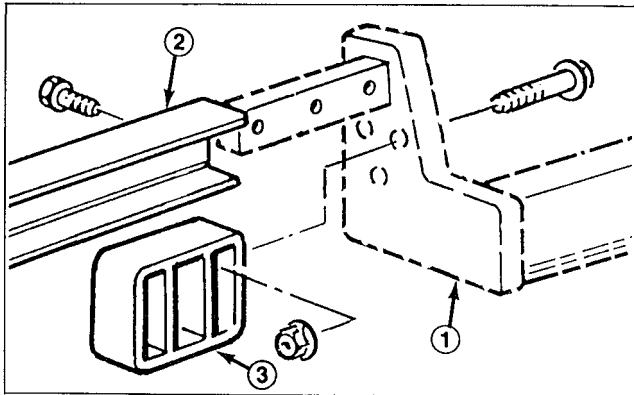

Figure 5
2. Mount a rear cradle to each lift arm with (3) 3/8-16 x 1-3/4" lg. capscrews and flangenuts as shown in figure 5.